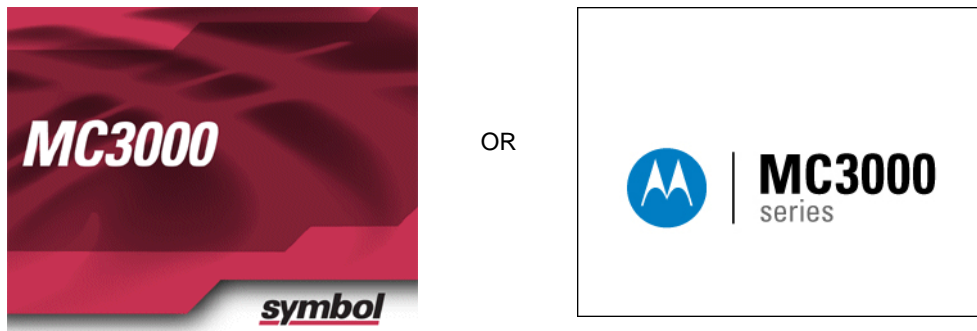

Figure 1-7 Symbol Splash Screen
1. Simultaneously press and then release the **1**, **9** and **Power** keys. Do not hold down any other keys or buttons. As the mobile computer initializes, the Symbol splash window, Figure 1-7 on page 1-10, appears for about a minute.
1. Simultaneously press and then release the **1** and **9**, **MENU** and **Fn** keys. Do not hold down any other keys or buttons. As the mobile computer initializes, the Symbol splash window, Figure 1-7 on page 1-10, appears for about a minute.